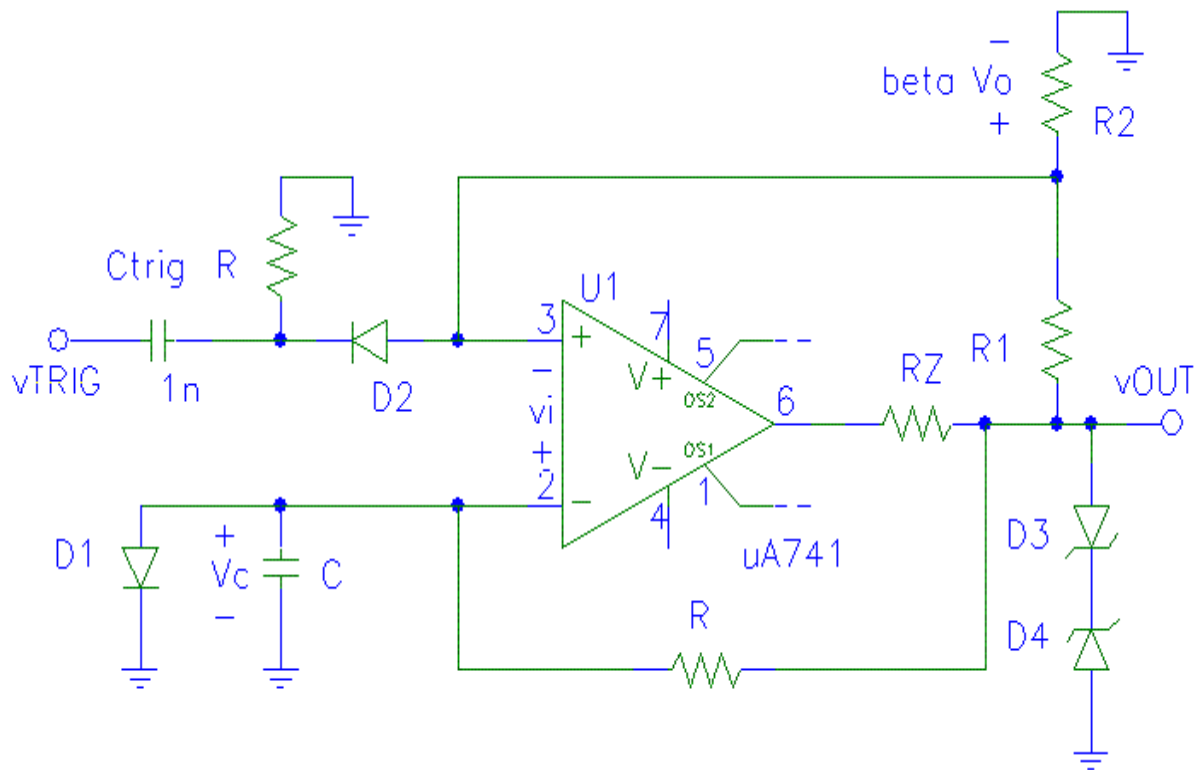

Figure 6
(1) Find appropriate values for the resistive and capacitive components of the pulse generator in figure 6 to give 1 msec pulse output. Let the feedback factor  $b = 0.5$ ,  $R_Z = 10 \text{ kW}$ . Assume that  $V_O \gg V_D$ .